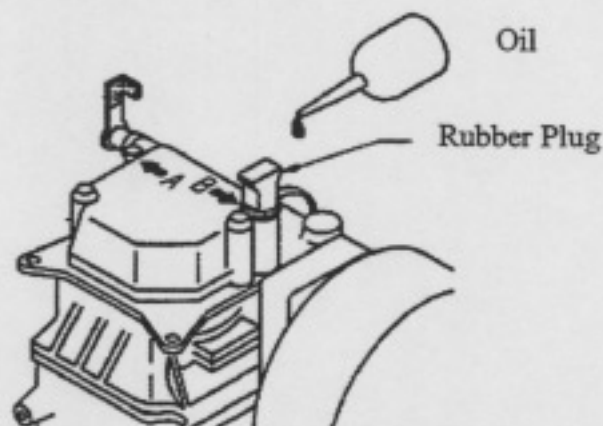

Figure C-7. Adding Oil – Cylinder Head Cover Opening
Be sure to install the rubber plug (Figure C-7) in the cylinder head cover opening after adding oil. Leaving the hole unplugged can lead to premature diesel engine failure as water, dirt, and debris entering the hole can damage internal parts. Do not add more than the specified amount of engine oil through the cylinder head cover.
10. Remove rubber Plug "B" (Figure C-7) in cylinder head cover and add 2ml of clean engine oil, MIL-L-2104, 15W40. Install rubber plug.